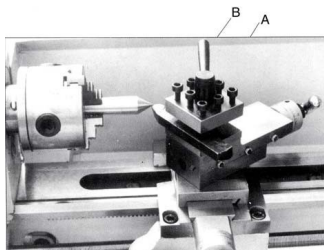

Fig. 11 Tool Post Adjustment
When you are going to adjust the tool post position, you only need to loosen the lever shown in (B) of Fig.11. After you have finished be sure to tighten. If you are going to replace the work cutter then you need to loosen the screws of (A) with the allen wrench provided.